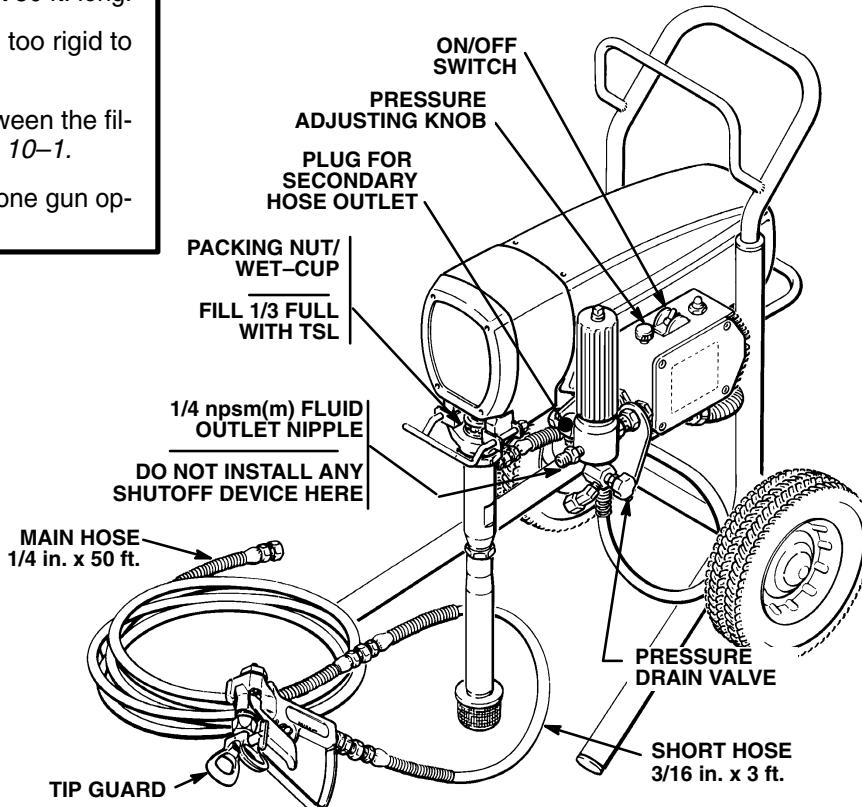

Fig 10-1
NOTE: Refer to Fig 10-1 for Steps 1 to 3.
3. Never install any shutoff device between the filter and the main hose. *Refer to Fig 10-1.*